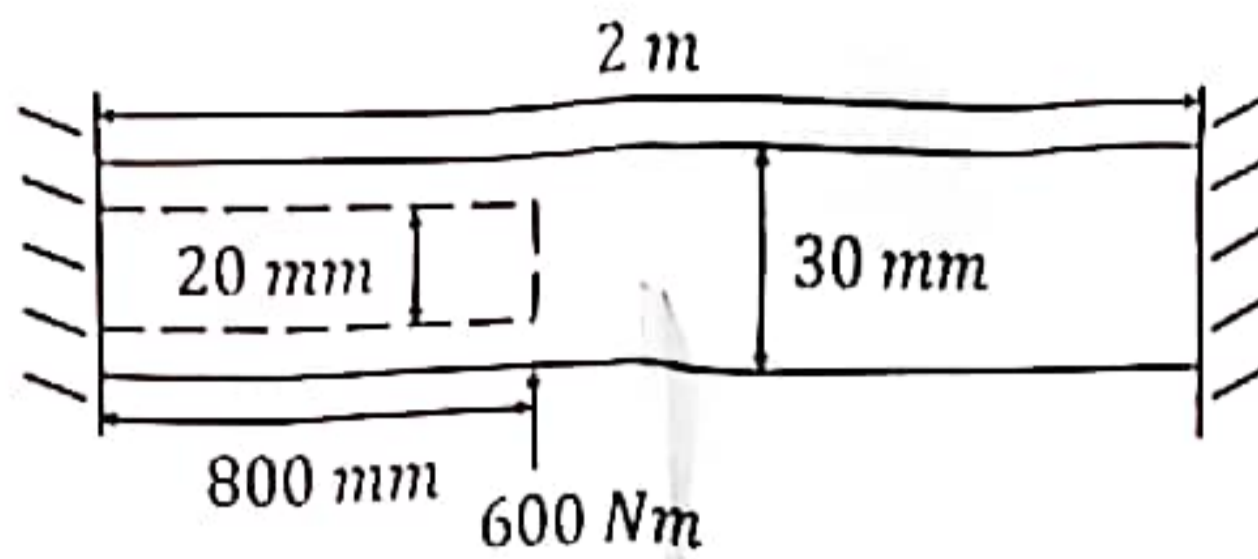

Fig Q9
9. A 2 m long steel rod that is 30 mm in diameter has a concentric 20mm hole drilled in one end to a depth of 800 mm. A 600 Nm torque is applied at the point where the hollow section meets solid section and the rod is rigidly clamped at both ends as shown in Fig Q9.